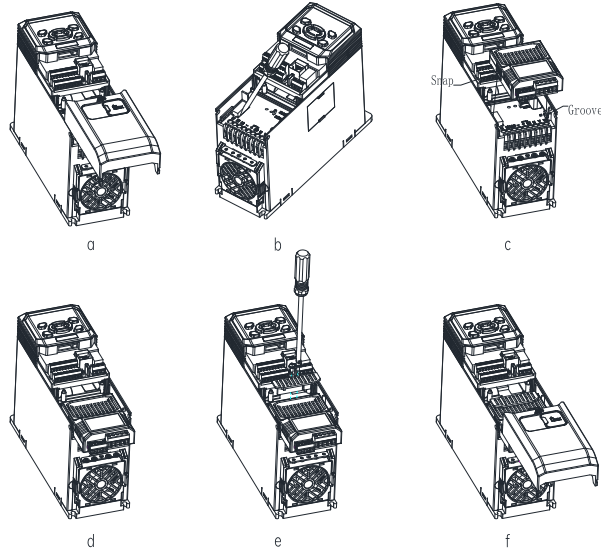

Fig. 4
- (1) When the drive is powered off, press the granulated part on the middle-upper of the lower cover, slide it down firmly to take down the cover, as shown in Fig. 4-a.
- (2) Use a straight screwdriver to pry open the dustproof cap, as shown in Fig. 4-b.
- (3) Install the IO option: hold the expansion box (a bus card inside) upwards (indicators up), then align the expansion box with the electrical bus interface of the installation position 2, and press down horizontally to buckle the spring snap of the expansion box into the groove at the lower part of the drive, as shown in Fig. 4-c and Fig. 4-d. Then, use the included retaining plate to secure the option and tighten it with screws (for enclosure B only), as shown in Fig. 4-e.
- (4) The bus card is successfully installed, as shown in Fig. 4-f.